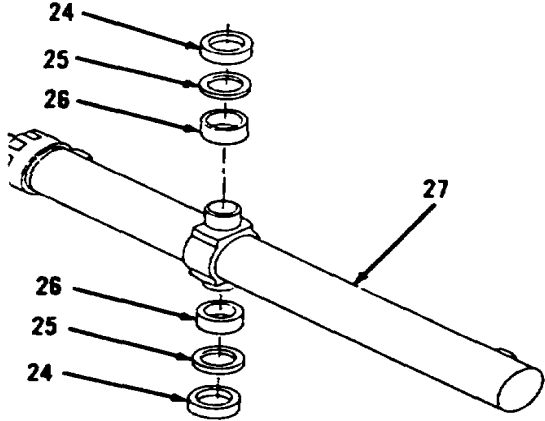
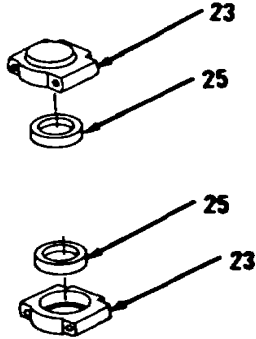

Figure 10-132.
Figure 10-133.
- 14. Using suitable puller, remove two bearings (24) and seals (25, Figure 10-132). Discard seals (25).
- 15. Using suitable puller, remove two sleeve bearings (26), if necessary, from cylinder (27).
- 1. Using arbor press, install two new sleeve bearings (26) to cylinder (27, Figure 10-132), if removed.
- 2. Lubricate two new sleeve bearings (26) thoroughly with clean grease.
- 3. Using arbor press, install two new seals (25) in two caps (23) with lip on seals (25) facing inside of caps (23, Figure 10-133).
- 4. Using arbor press and suitable driver, install two bearings (24, Figure 10-132).